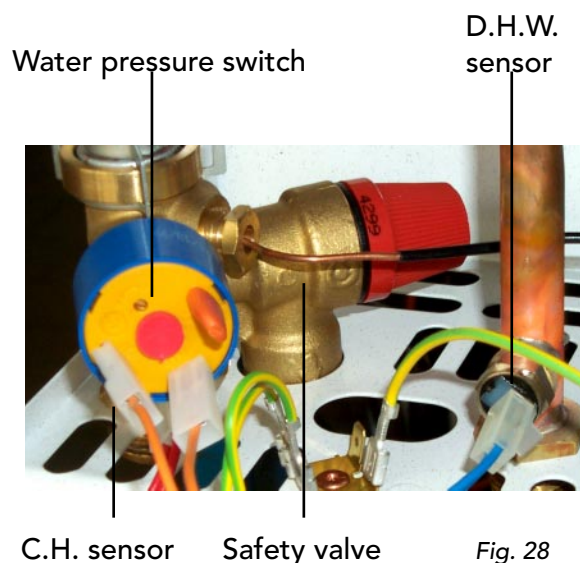

Fig. 28
### 7.06 D.H.W. temperature sensor or Central Heating Temperature Sensor (fig. 28)
- Identify the sensor from figure 28
### 7.07 Water Pressure Switch (fig. 28)
- Identify the switch from figure 28
### 7.08 Safety Valve (fig. 28)
- Identify valve from fig. 28